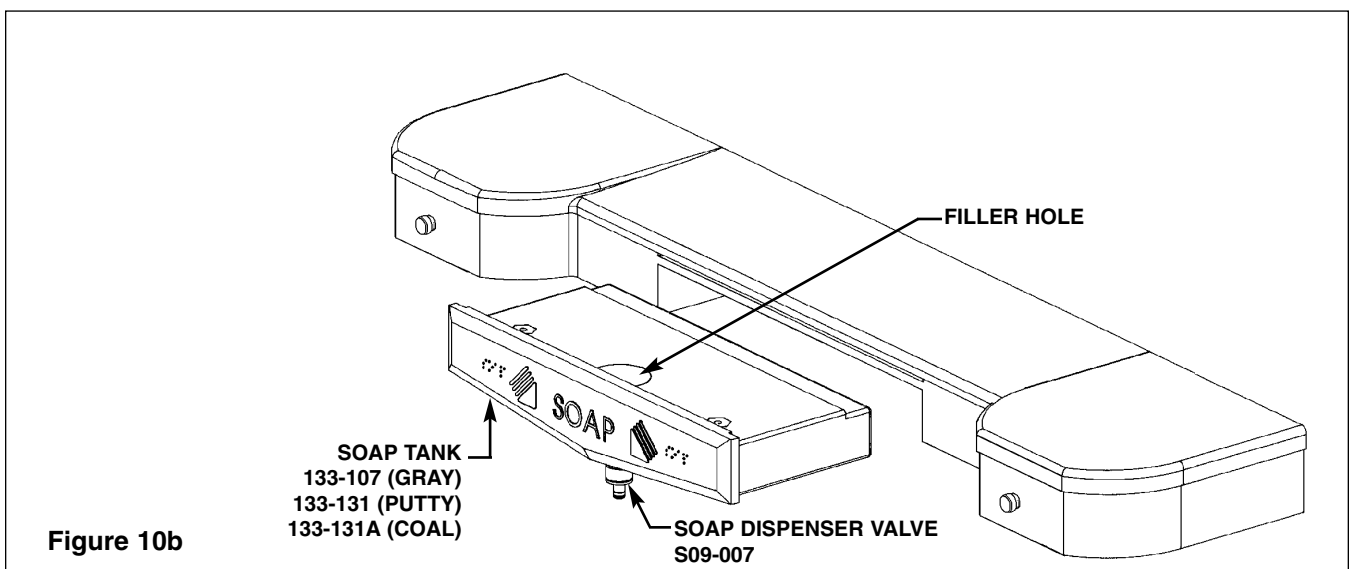

Figure 10b
3. Pour the soap into each soap tank's filler hole (see Figure 10b).